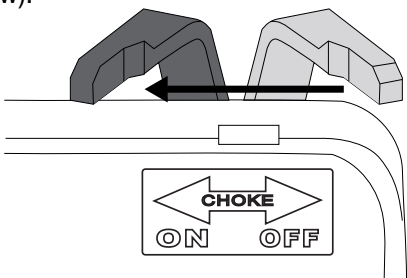

Figure 10 - Choke Lever - ON
9. Move the choke lever to the **ON** position (see Figure 10 below).